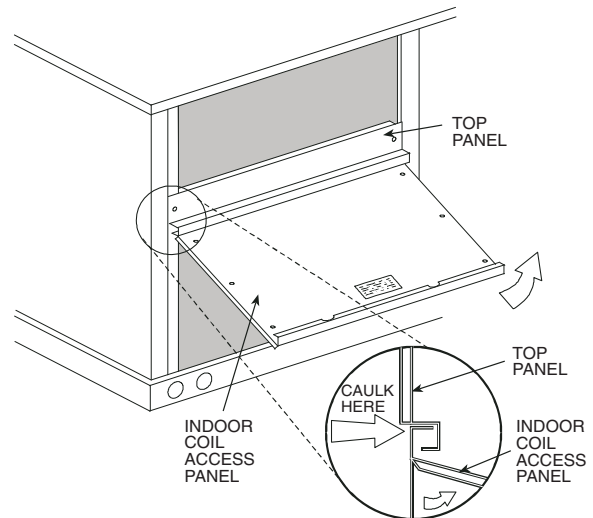

Fig. 17 — Indoor Coil Access Panel Relocation (Size 08-14 Shown)
1. The indoor coil access panel will be used as the top of the hood. Remove the screws along the sides and bottom of the indoor coil access panel. See Fig. 17.